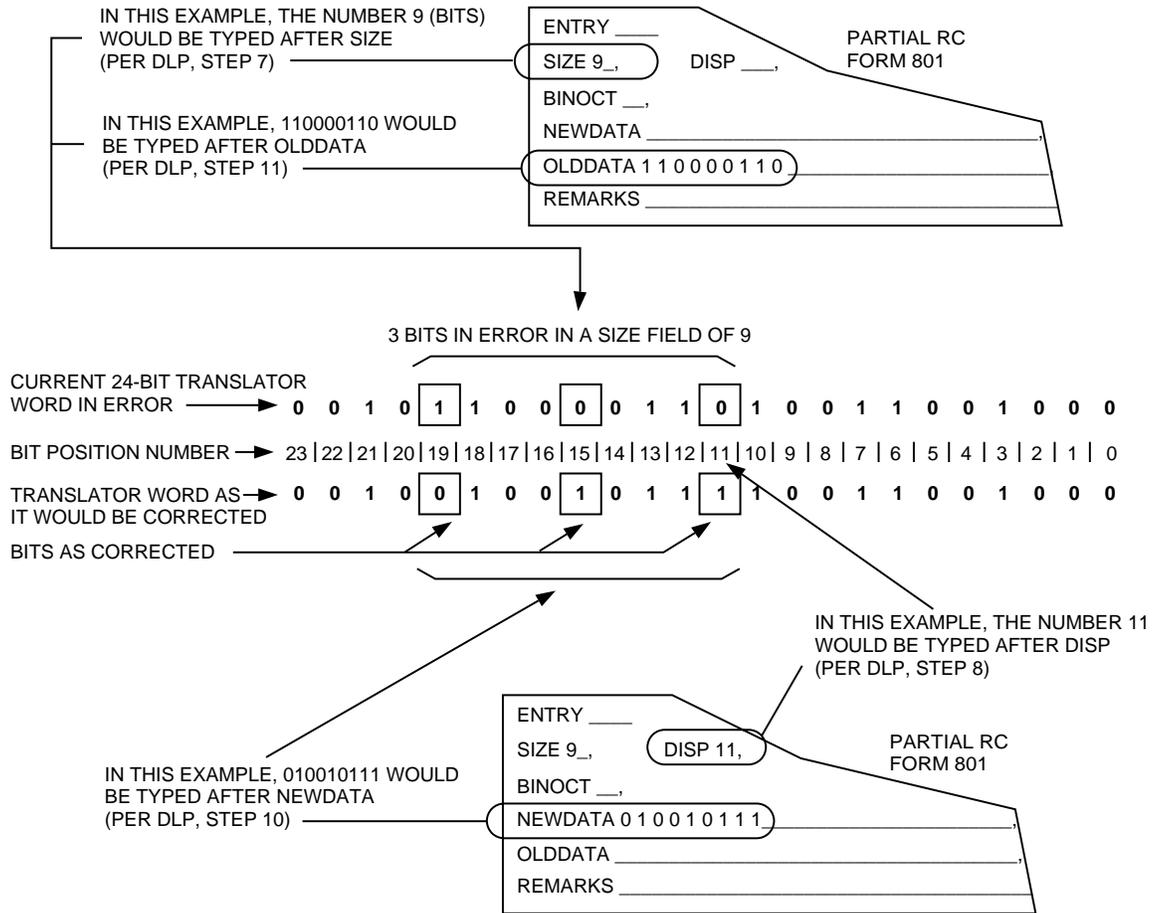

Figure 1. Functional Word Change Example
7. Determine the quantity of consecutive bits which span all bits requiring change in this Unit Type Translator word (see example in Figure 1). At `SIZE`, enter this **decimal** number.
8. Determine the bit position number (range 0 to 23) identifying the rightmost of the consecutive bits determined in Step 7 (see example in Figure 1). At `DISP`, enter this bit position number.
10. Determine the binary bits to be inserted into the Unit Type Translator word to correct that word (see example in Figure 1). At NEWDATA, enter these binary bits.
11. At `OLDDATA`, enter the current binary of only that portion of the Unit Type Translator word requiring change (see example in Figure 1).